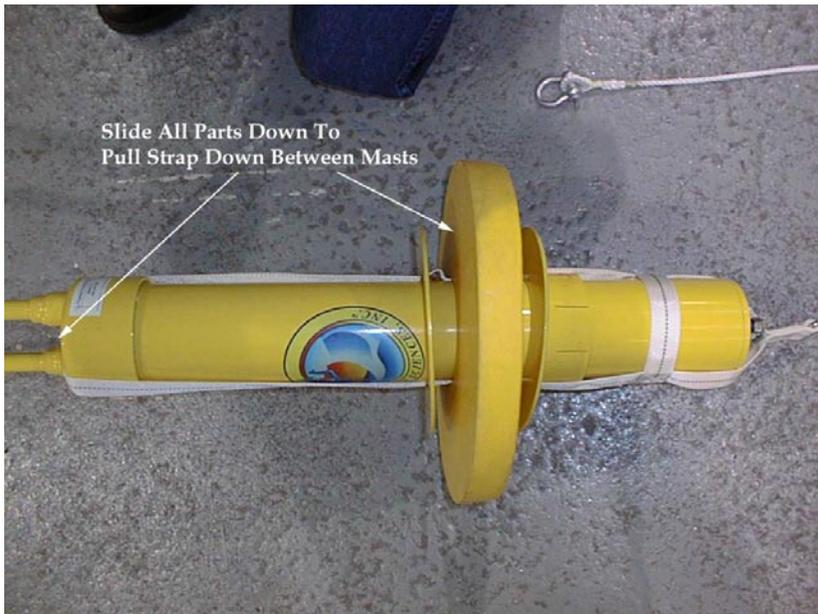

Figure 12
J. Slide all the floatation parts towards the bottom of the buoy including the bridle. Ensure the strap is lying flat and between the antennas. (Fig.12)